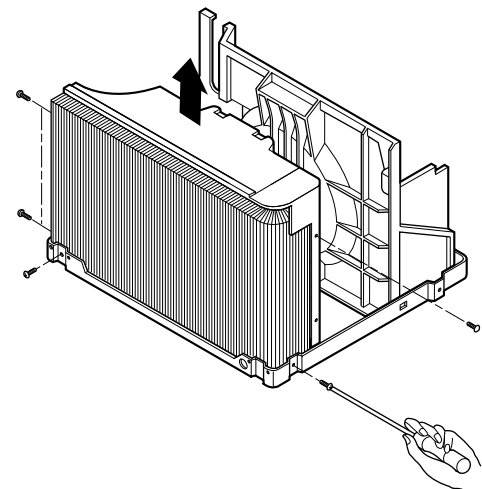

Figure 27
6. Re-install the components by referring to notes. (See Figure 27)